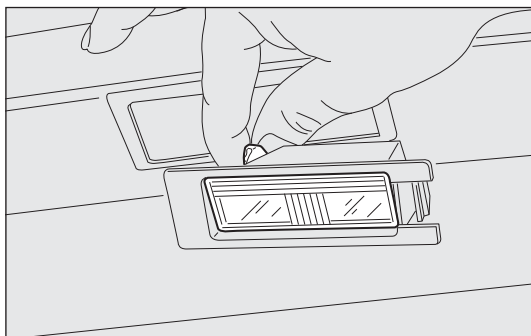

fig. 179
- change the bulb fig.179 by releasing it from the side contacts and making sure the new bulb is correctly fastened between these contacts;